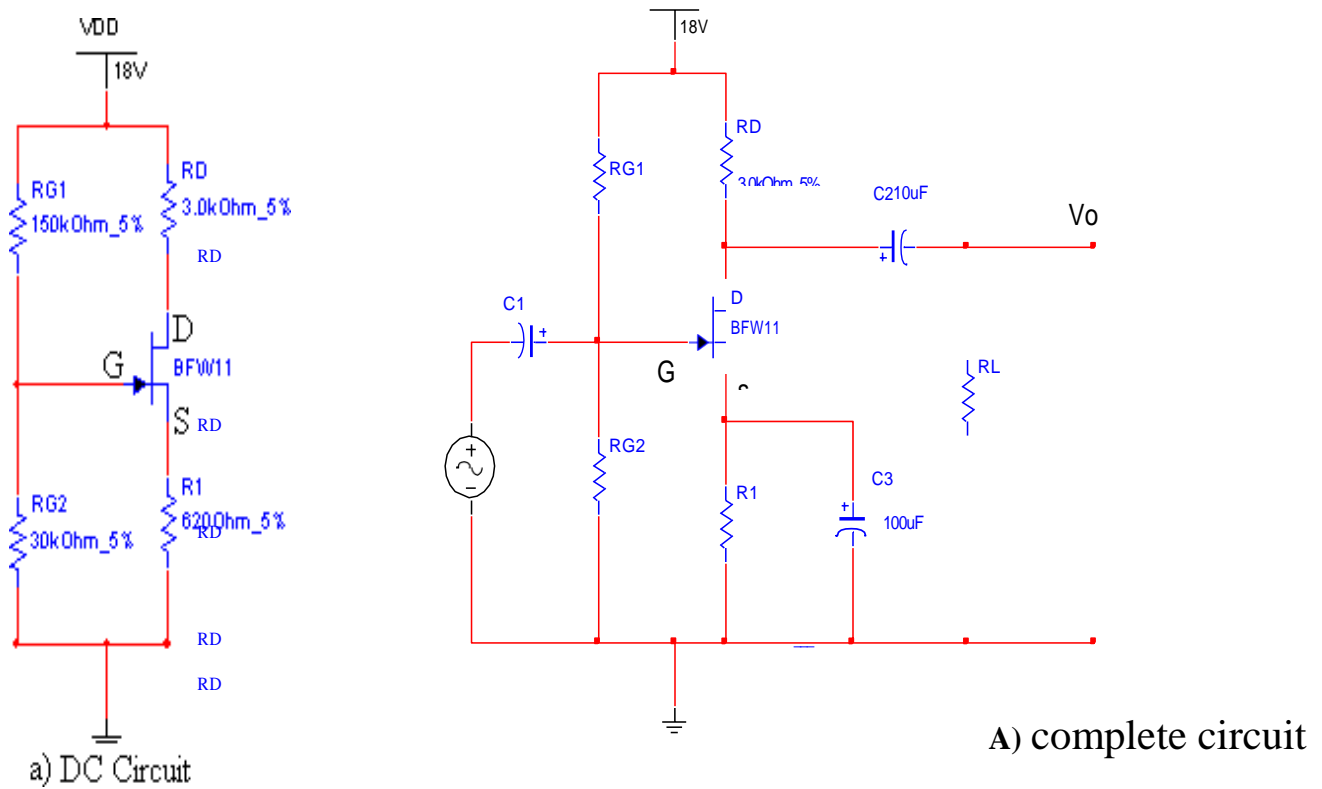

Fig 9.1 Single Stage Common Source JFET Amplifier
4. Calculate the DC operating point I_{DSQ} and V_{DSQ} of the Amplifier circuit in fig 9.1 (a).
6. Draw the AC and DC load lines for the circuit in Fig.9.1(b) and estimate the maximum un-distorted peak to peak output signal amplitude.
1. Connect the circuit in Fig 9.1(a)
1. Connect the circuit in Fig.9.1(b) and fix the frequency of the function generator at 5 KHZ